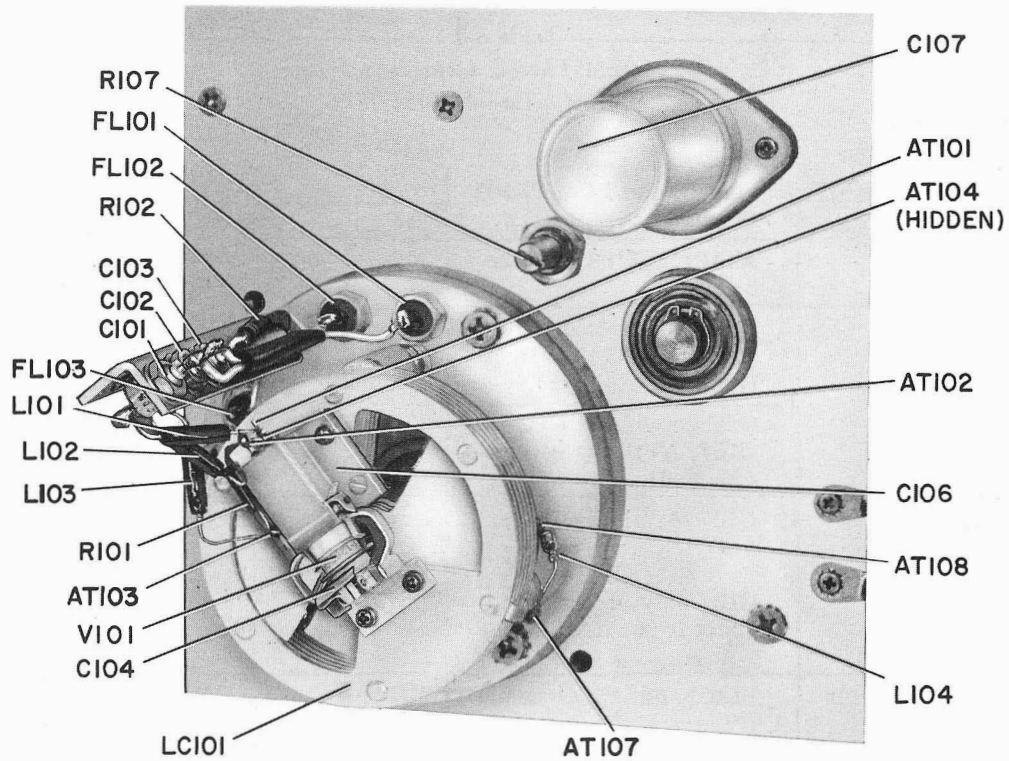

Figure 6-3. Interior rear view of Type 1362 Oscillator with shield cover removed.
If the 1362 Oscillator performs outside of specification, as determined by use of paragraph 6.3, the procedures below can be used to isolate the trouble to a defective assembly or part. Suggestions for trouble analysis are given in Tables 6-2 and 6-3. The former is based on operating parameters, the latter on cold resistances. (Refer to Figures 6-3 and 6-4 and to the schematic diagram, Figure 6-8, at the end of the book.) Instructions for adjustment and repair are given in subsequent paragraphs of Section 6.
g. Connect a 0-50 milliammeter at the MOD jack; apply power using a 1267 Power Supply; set the dial to 920 MHz; connect a 50-ohm load to the output connector; push the attenuator in; allow 5 minutes for warm-up. Adjust R107 with a screwdriver (refer to Figure 6-3) for 30 mA  $\pm$ 3 mA plate current. (The current may be set higher to provide more rf power output at the expense of reduced tube life; conversely, for economy, refer to paragraph 6.9.)